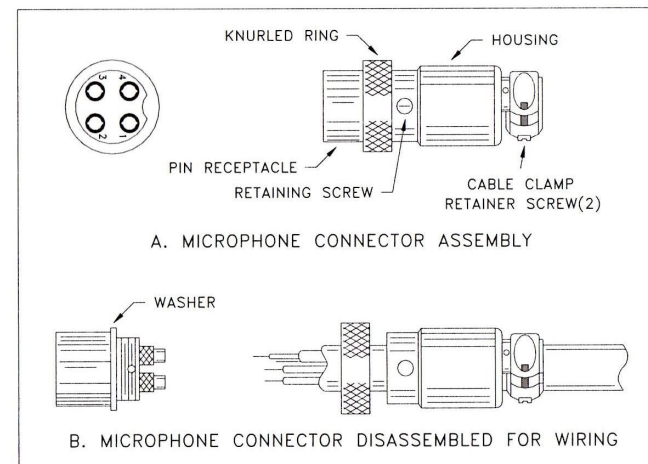

Fig. 4. Microphone plug wiring
4. Feed the microphone cable through the housing, knurled ring and washer as shown Fig. 4.